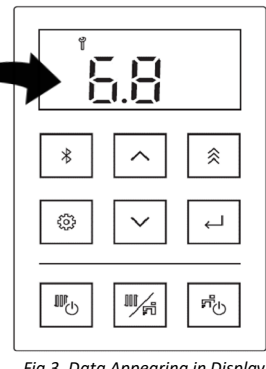

Fig 3. Data Appearing in Display
4. The data for the performance number automatically appears in the display (Fig 3).